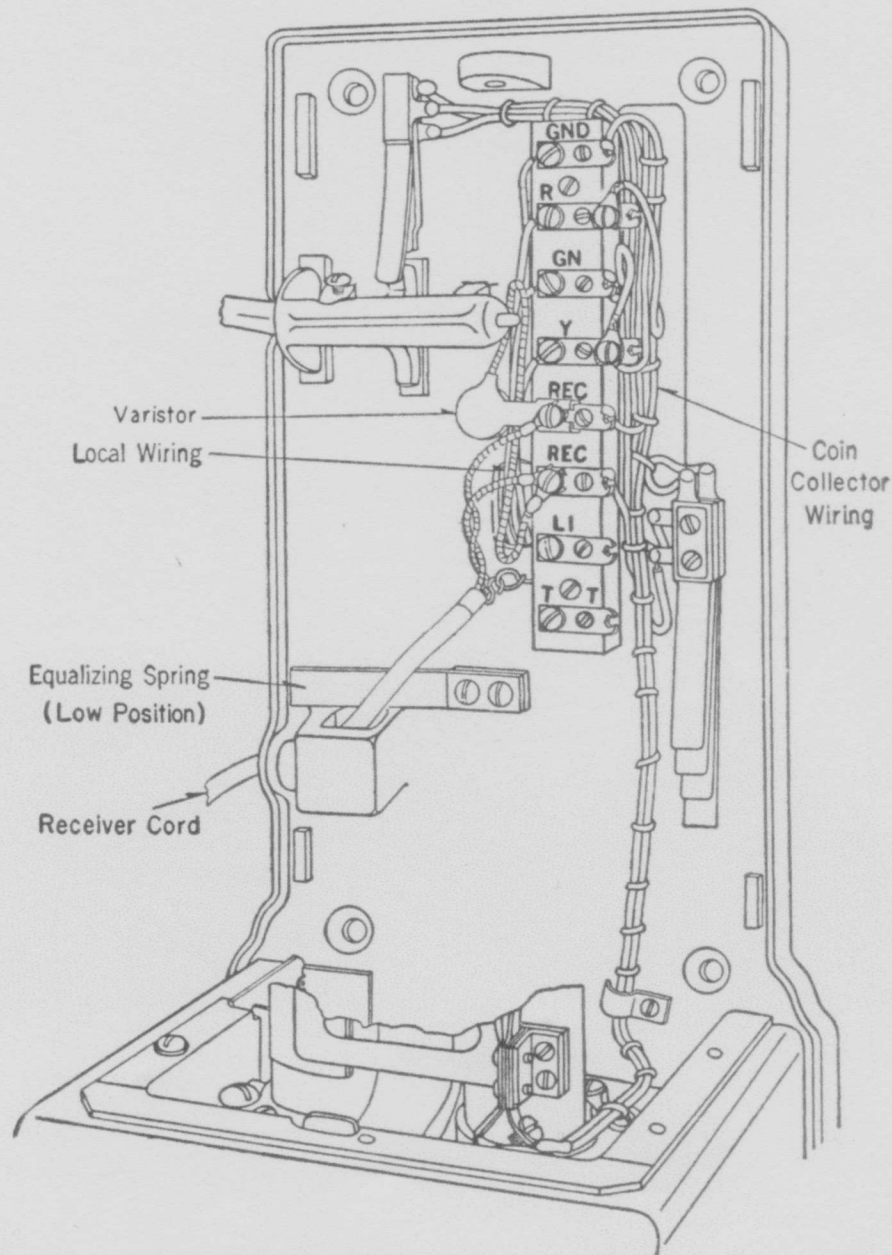

Fig. 9—50-type Prepayment Coin Collector—Lower Housing and Backplate Assembly
3.05 The 37A varistor shall be located and lead-wires dressed as shown in Figs. 9, 10, 11, 13, 15, 17, 21, and 22. Terminal connections are given in Subdivision C64.